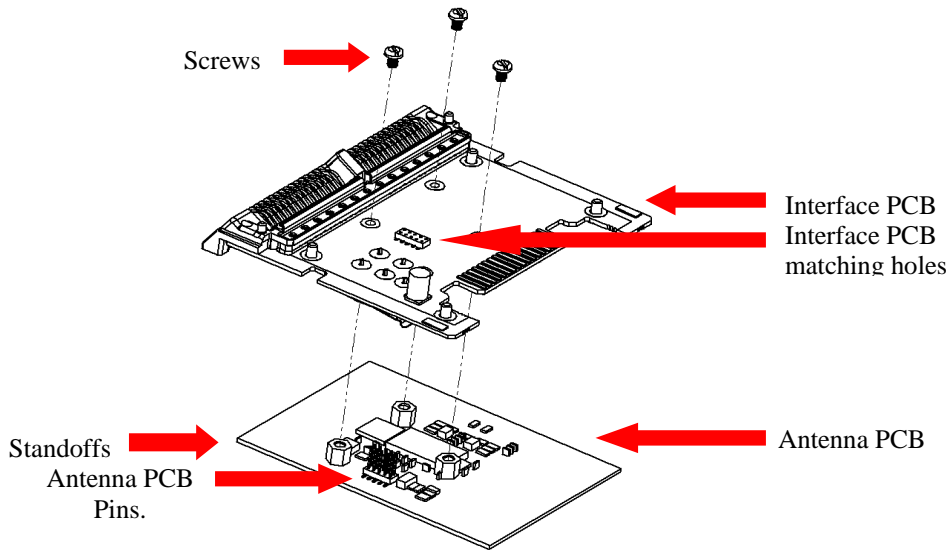

fig.1
2. Use fig.1 below as a guide to line up the pins that are on the top of the antenna PCB with the matching holes that are located on the bottom of the Interface PCB. Mate the PCBs together by pressing the PCBs together.